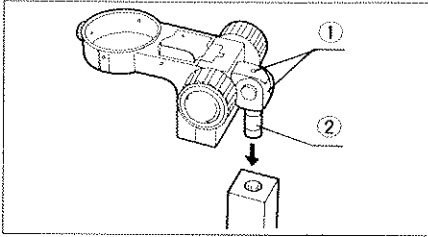

Fig. 2
(1) Loosen the clamping screw on the equipment, to which the arm has been attached, and insert the mounting shaft ② into the hole on the equipment.
(2) Although it is possible to insert the mounting shaft ② either from above or below, make sure that it is inserted from above when mounting heavy devices such as photomicrographic equipment. (Fig. 2)
(3) To adjust the optical axis angle, loosen the fixing screw ① with the hexagon wrench provided. After adjustment, tighten the clamping screw ② ① firmly. (Fig. 2)